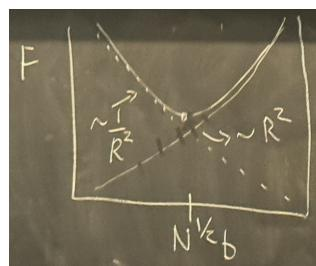

Figure 1.15: A post-facto compression penalty.
- The nice thing about this compression penalty is that the graph of $1/R^2 + R^2$ forms a nice energy well, dictated by the rates at which one or the other increases. See Figure 1.15.